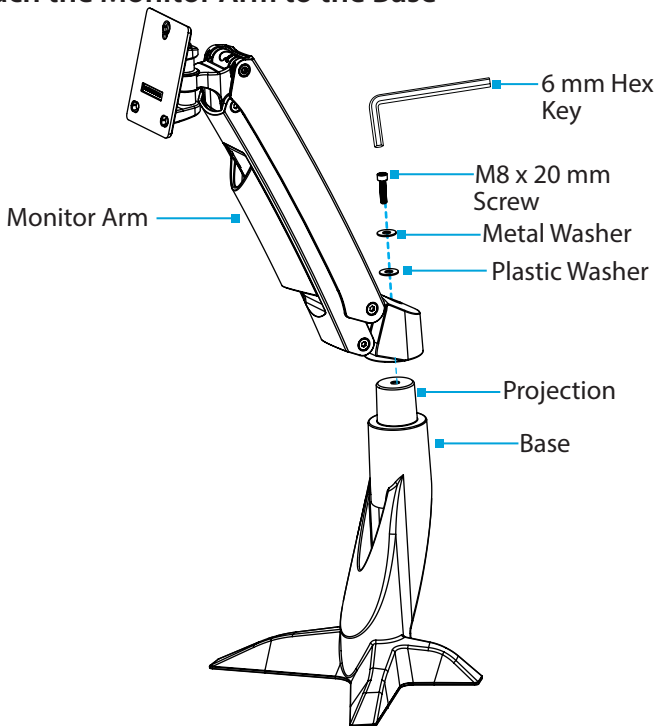

Figure 10
4. Insert the **M8 x 20 mm Screw** through the **Washers** and into the **Joint**, located in the **Monitor Arm**, and tighten, using the **6 mm Hex Key**. (Figure 10)